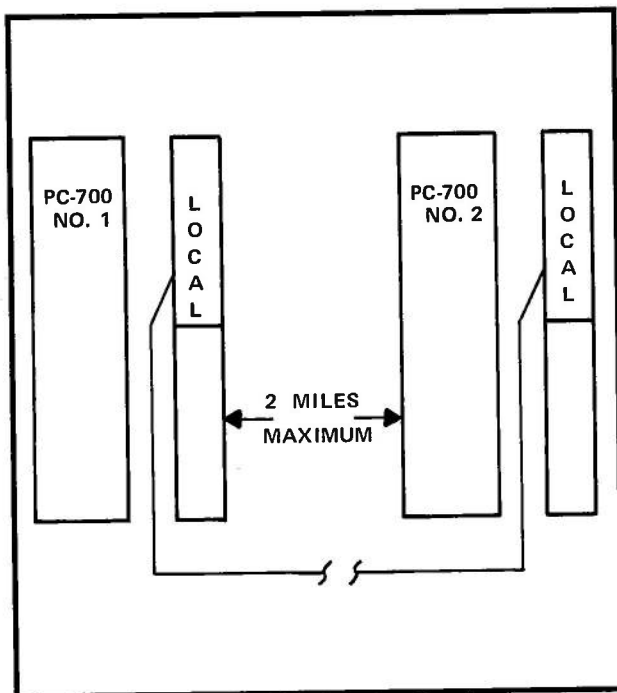
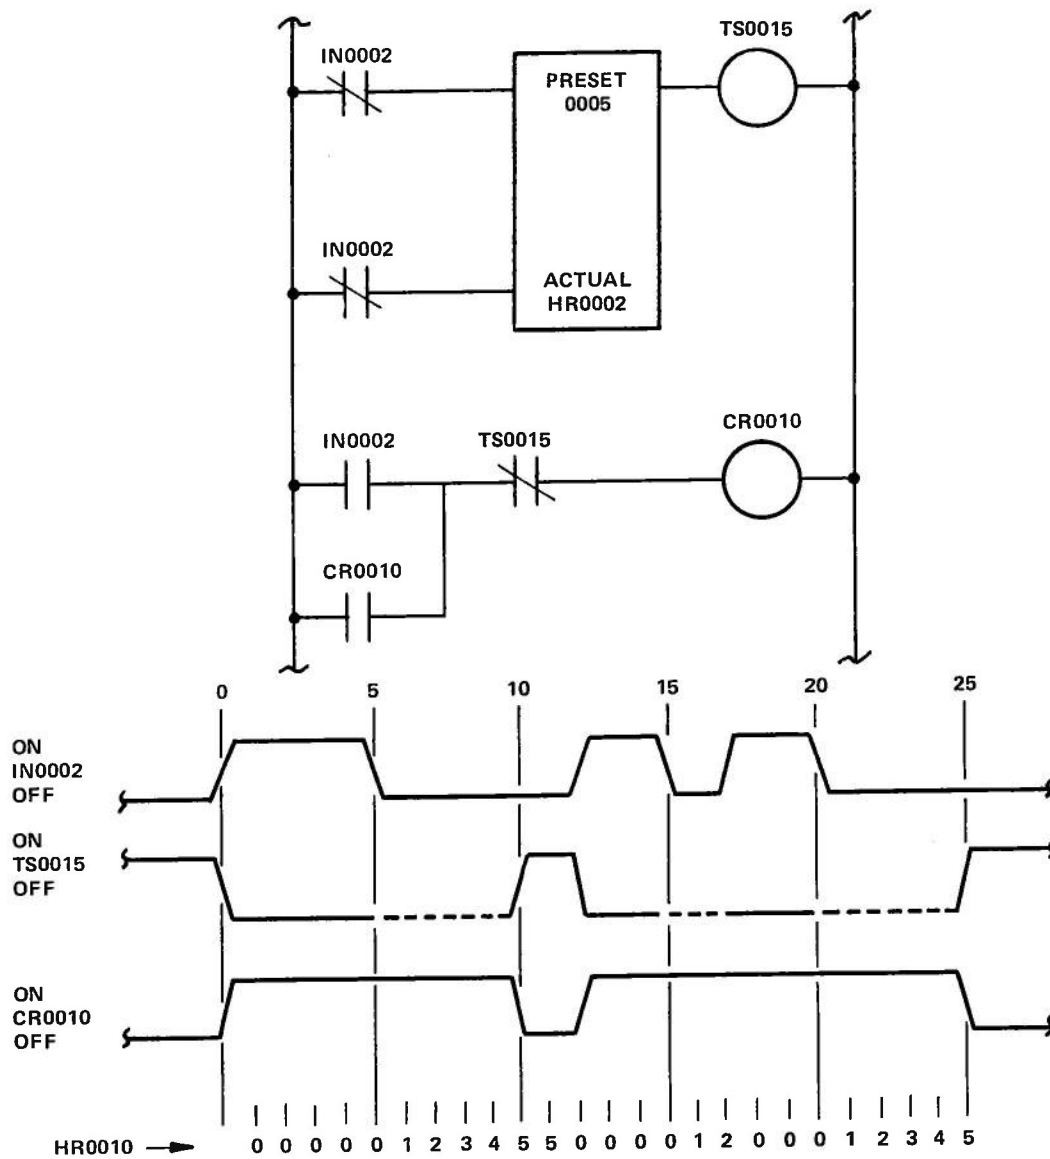

Figure 2. Interprocessor Data Exchange
Figure 3. OFF Delay Timer Circuit
The TR function can be used with its companion, the Register-to-Table Move (RT) function. Consider the example shown in Figure 2. Normally, the transmission of 256 inputs to the remote site requires four local units, four remote units, and four expander power supplies. If the function is not time critical, the circuits in Figures 3 and 4 are used.
Figure 3 is the program for PC No. 1. Using this program, PC No. 1 uses a Table-to-Register Move (TR) to move the status of IG0001 through IG0012
Figure 3 is an example of an OFF Delay timer circuit. In this circuit, IN0002 controls the timer. IN0002 is a normally-open (NO) switch. Its contacts in the timer control circuits are programmed to be normally-closed (NC). An additional ladder rung (CR0010) is required to implement the OFF Delay. Assuming that CR0010 is initially OFF and that IN0002 is not activated for some time, the TS0015 coil is energized, holding CR0010 OFF with the now open TS0015 NC